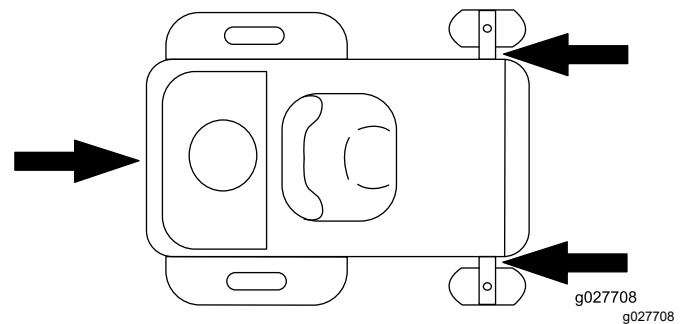

**Figure 33**
4. Back the machine up the ramp (Figure 33).
2. Drive the machine forward down the ramp (Figure 33).